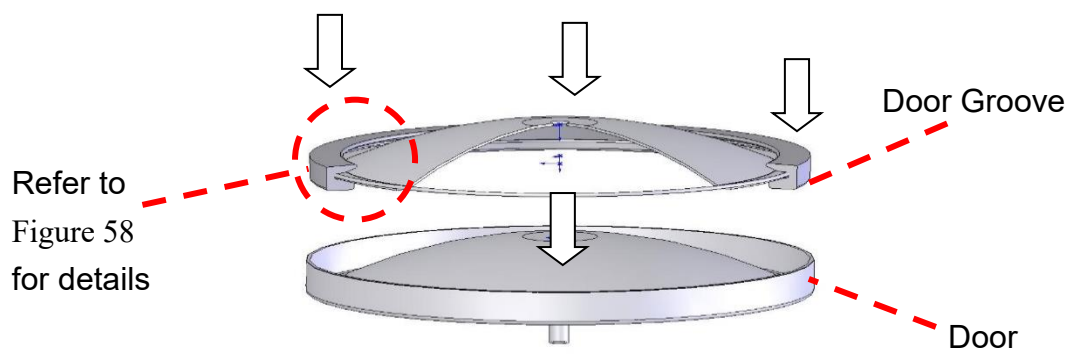
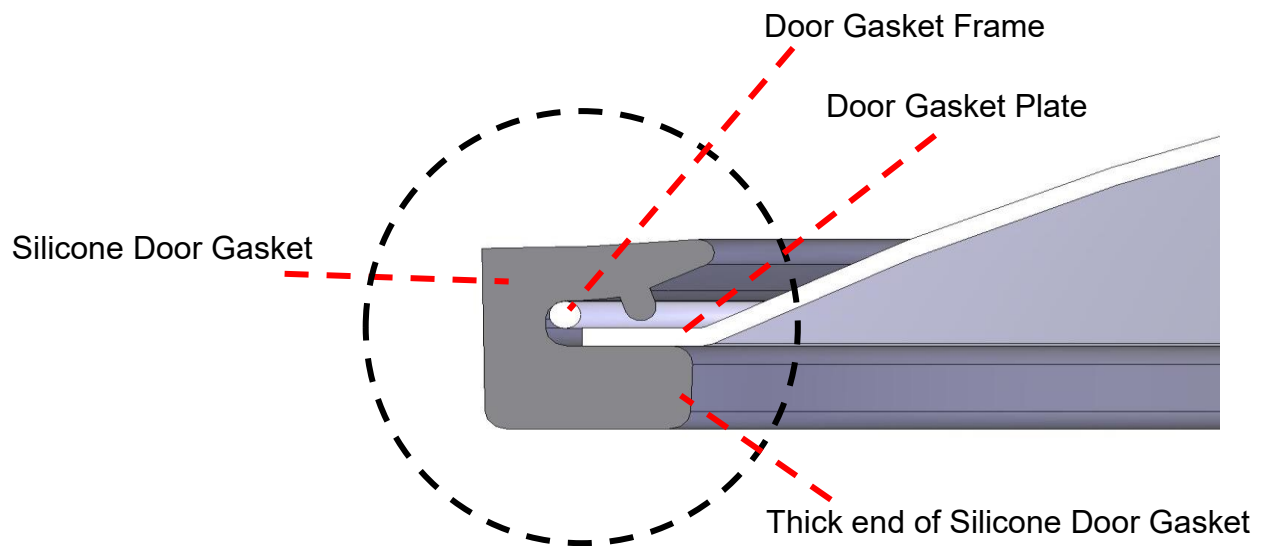

Figure 57
Figure 58
- C. Install the gasket with the door gasket frame, door gasket plate inside to the door groove. Press the gasket into the door groove evenly as shown in Figure 57. Take thick end of silicone door gasket of the installation direction while pressing the gasket into the groove. Refer to Figure 58 for the correct direction.